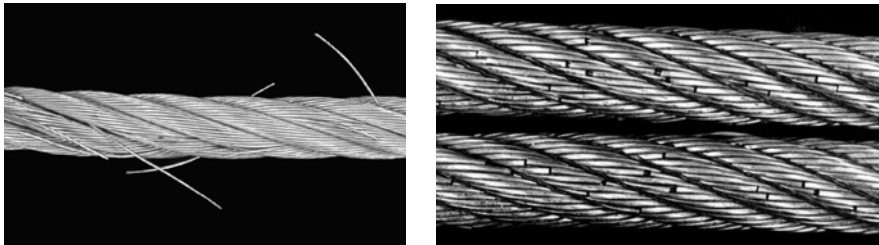

Figure 2 Broken wires.
1.2. Broken wires (Figure 2) Yes No